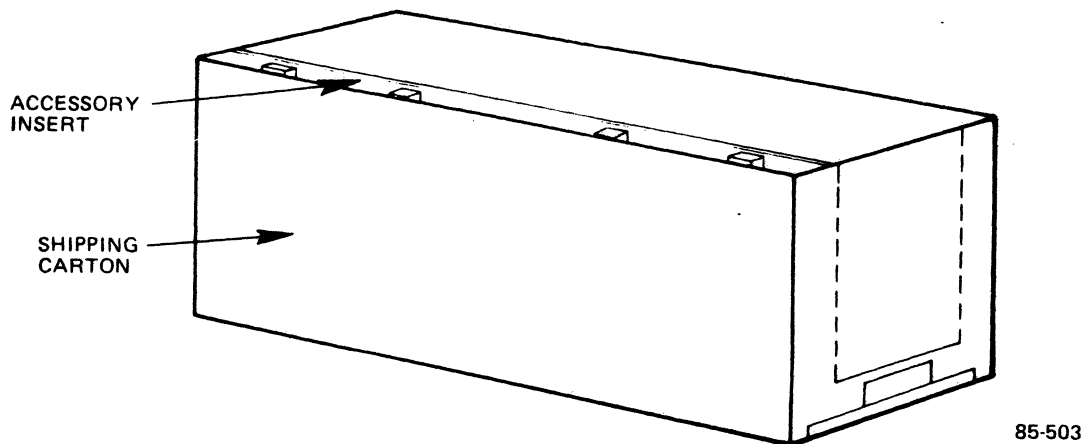

Figure 4-1. Shipping Carton
1. Remove everything from inside the shipping carton except the accessory insert (see Figure 4-1).
2. Remove the logic address plug from the disk drive front panel (see Figure 2-30) and store it in the accessory pocket in the shipping carton (see Figure 4-1).